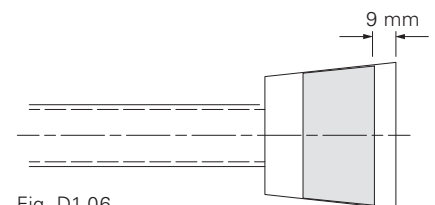

Fig. D1.06
- Repoxal, Item no. 108136. (Fig. D1.06)